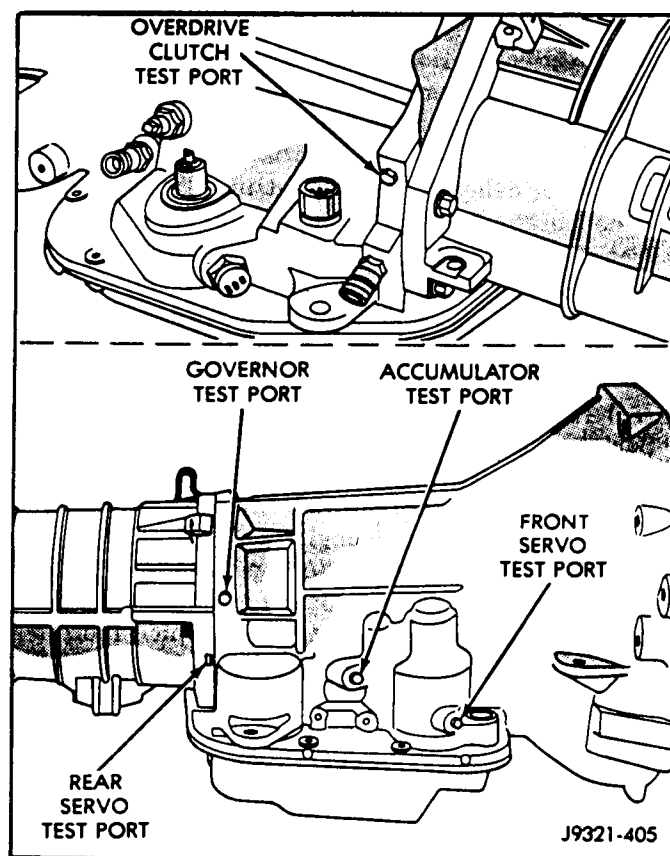

Figure 5
Line pressure is checked at the accumulator test port, but must be in the drive position, as it is rear clutch oil that is being measured. Front clutch oil (3rd&Rev) is available at the front servo pressure port. All pressure port locations are seen in Figure 5.
1. Connect 100 PSI gauge to the governor pressure port (See Figure 5).